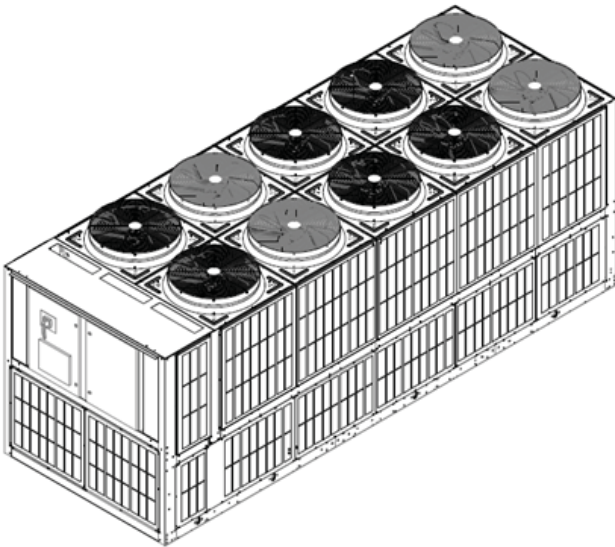

FIG. 3 – FULL UNIT LOUVERED PANELS
**LOUVRED PANELS** – Louvred panels, painted the same colour as the unit, enclose the unit to visually screen and protect the coils as well as preventing unauthorized access to internal components. Also available as a condenser-only option. See Figures 3 and 4.